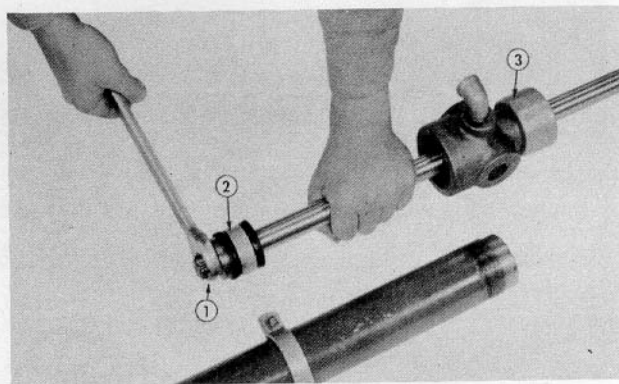

Fig. 15
Step 3—Remove nut (1—Fig. 15) and piston leather assembly (2) from piston.
Step 4—Loosen packing nut (3—Fig. 15) and remove piston from yoke assembly.